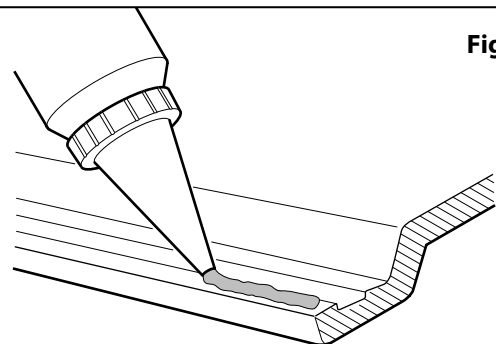

Fig. 1.20
4. Apply a continuous generous bead of good quality silicone onto the rim around the upper perimeter of the sink (**Fig. 1.10**) or (**Fig. 1.20**).
- Apply silicone sealant (not supplied) to the underside of the sink rim **(Fig. 1.20)**.